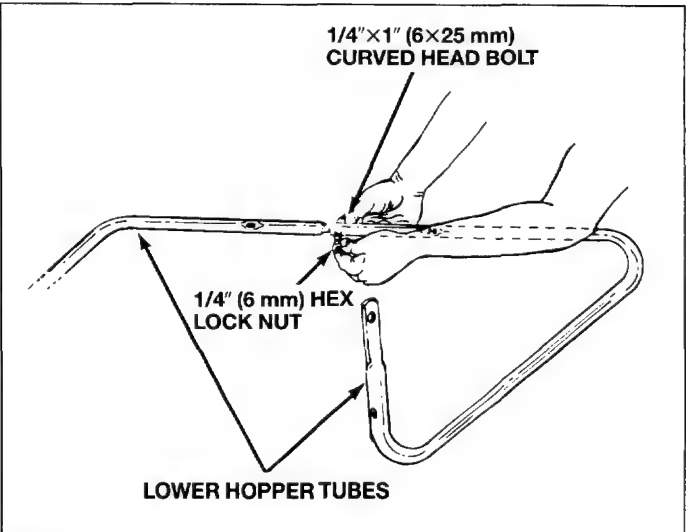

Fig. 16
5. Assemble the two lower hopper tubes as shown in figure 16. Secure with 1/4"×1" (6×25 mm) curved head bolt and 1/4" (6 mm) hex lock nut. See figure 16.